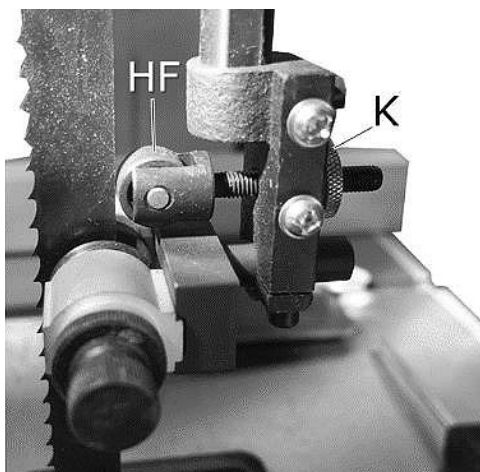

Fig. 15: Rear support roller
The rear support roller (Pos. HF, Fig. 15) prevents the saw band from being pushed back strongly during the cut.
Step 2: To adjust, loosen the clamping screw (Pos. K, Fig. 15) and position the rear guide roller (Pos. HF, Fig. 15) at a distance of approx. 0.5 mm from the back of the saw band. Then tighten the clamping screw again.